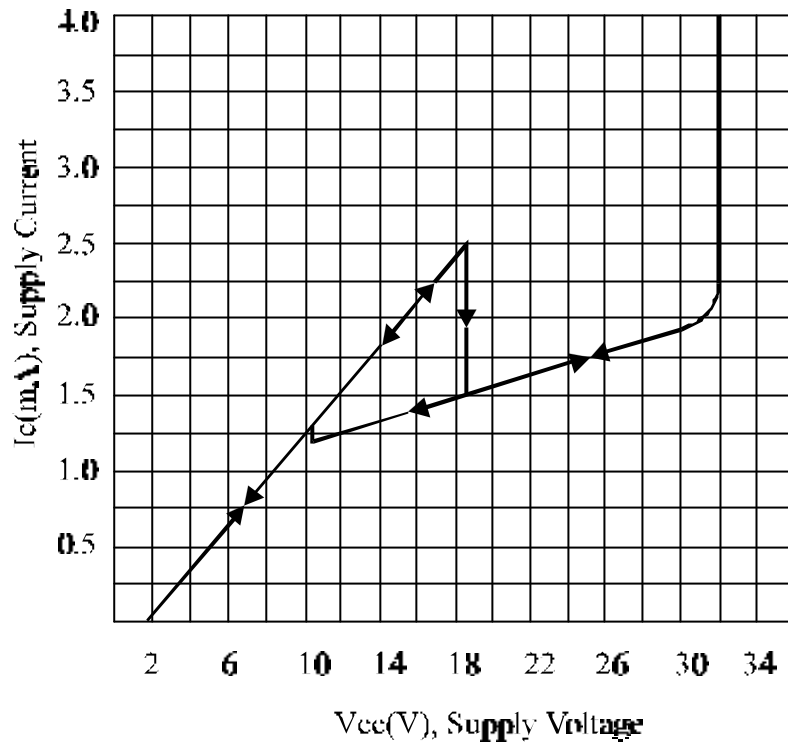

Figure 1
| V_{SI} | Initiation Supply Voltage (1) | See Figure 1 | 16.8 | | 21.2 | V |
| V_{SUS} | Sustaining Voltage (2) | See Figure 1 | 9.5 | | 12.2 | V |
| I_{SUS} | Sustaining Current (2) | No Load $V_{CC}=V_{SUS}$ See Figure 1 | 0.7 | | 2.5 | mA |